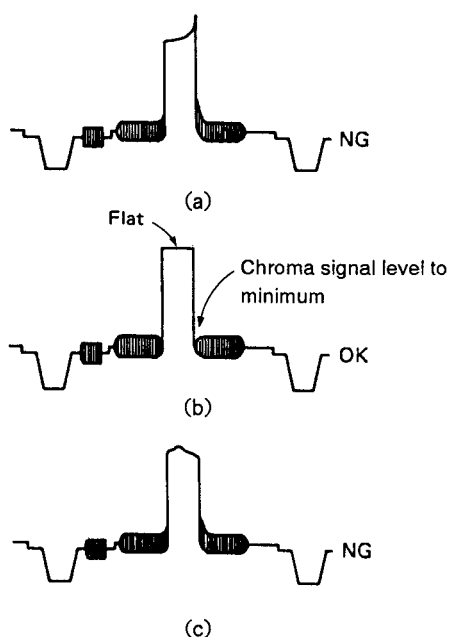

Fig. 15 Video Output Waveform (+Q section)
- Set S1 to position ② and S2 to position ③ and apply a +5dBmV Fv carrier signal to the CABLE IN terminal.
- Set S2 to position ① after completion of adjustment.
(2) Audio Trap Adjustment
- Set S1 and S2 to position ②, and apply +0dBmV Fv carrier and -5dBmV Fa carrier to the INPUT terminal.
(3) VCO Adjustment
- Set S1 to position ③, S3 and S5 to position ②, and apply a +5dBmV NON-SCR signal to the INPUT terminal.
- Set VR5 to center position and adjust T1 so that the signal appears on oscilloscope 2 as shown in Fig. 15.
- Adjust T1 so that the waveform of +Q section of the color bar becomes Fig. 15 (b).